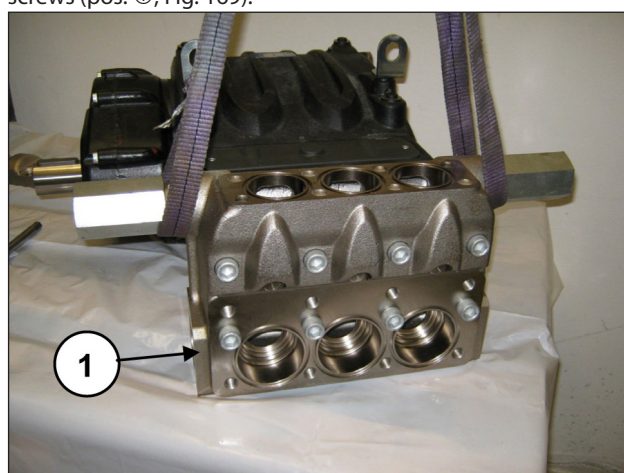
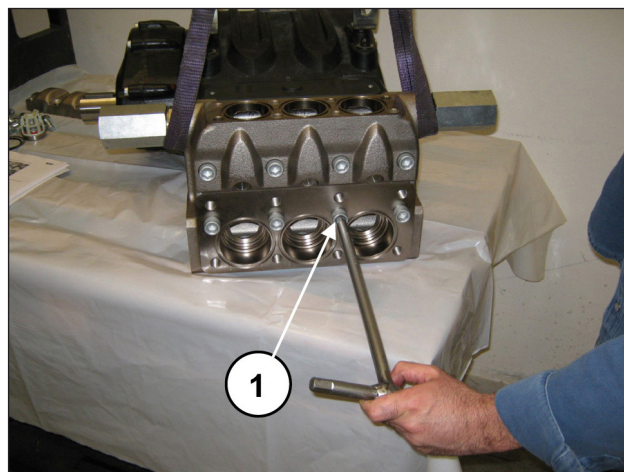

Fig. 168
Fig. 169
Assemble the head on the pump casing (pos. ①, Fig. 168) taking care not to hit the pistons and screw in the 8 M16x150 screws (pos. ①, Fig. 169).